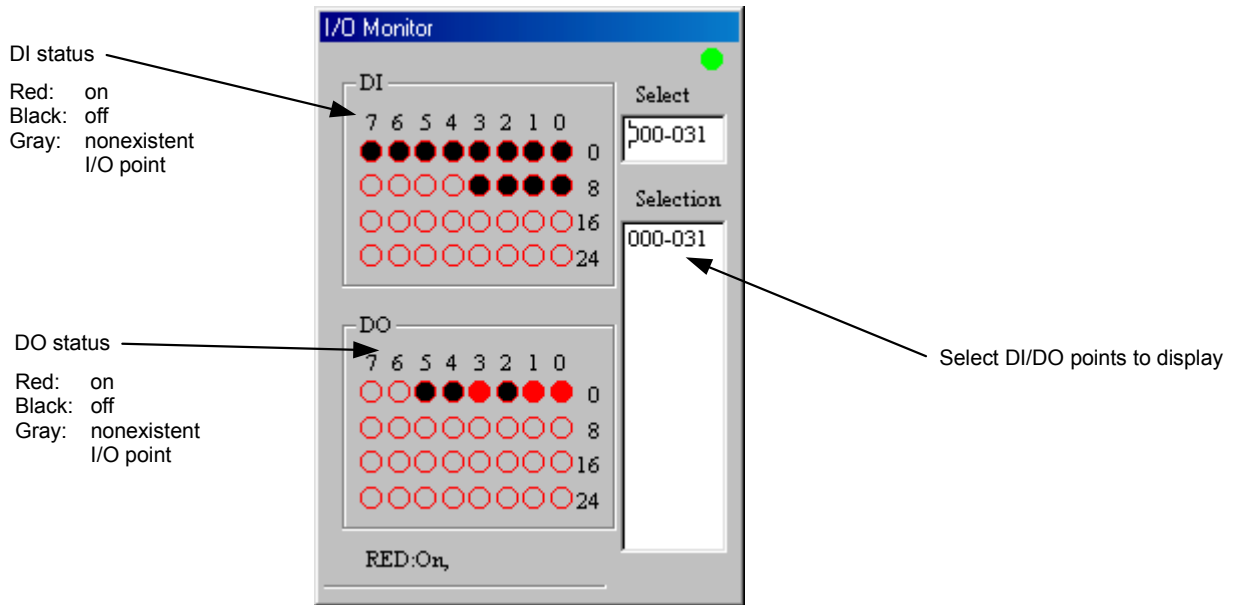

Figure 8.11 “I/O Monitor” dialog box
(2) I/O monitor
In the “Terminal” menu, click “I/O Monitor (I)” under “Monitor” to display the “I/O Monitor” dialog box (see Figure 8.11).